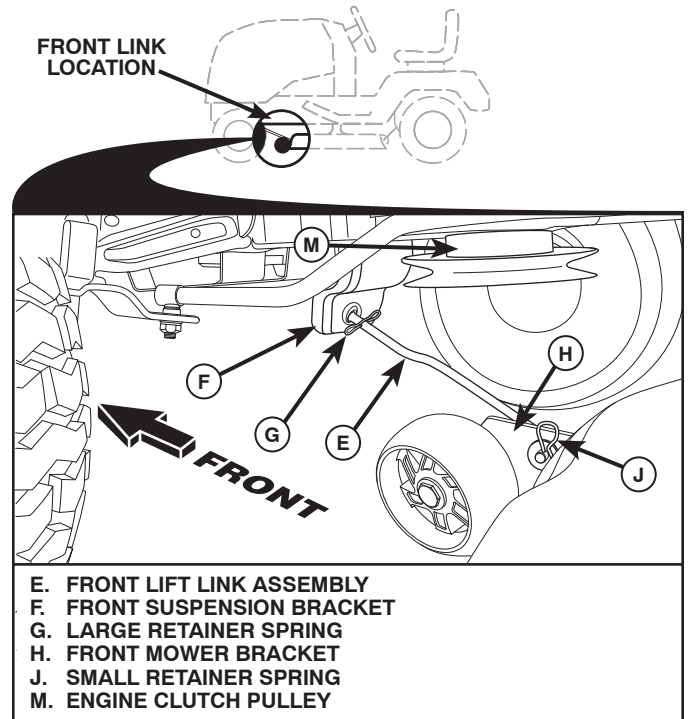

Fig. 31
## 8. ATTACH FRONT LINK (E) (See Fig. 31)
- From front of tractor, insert rod end of front link (E) through front hole in tractor front suspension bracket (F).
- Move to left side of mower and insert large retainer spring (G) through hole in front link (E) behind front suspension bracket (F).
- Insert other end of link (E) into hole in front mower bracket (H) and secure with washer and small retainer spring (J).
## 9. INSTALL BELT ON ENGINE CLUTCH PULLEY (M) (See Fig. 31 & 32)
- Disengage belt tension rod (K) from locking bracket (L).
- Install belt onto engine clutch pulley (M).